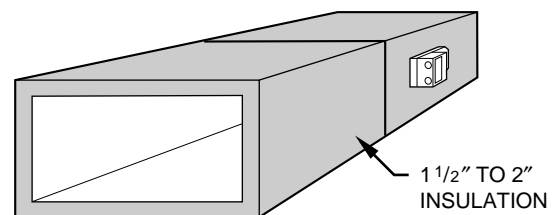

Fig. 11—Insulated Rectangular Fibrous Glass Ductwork A95134
4. Insulate damper using 1-1/2-in. to 2-in. insulation. (Check your local codes.) (See Fig. 11.)